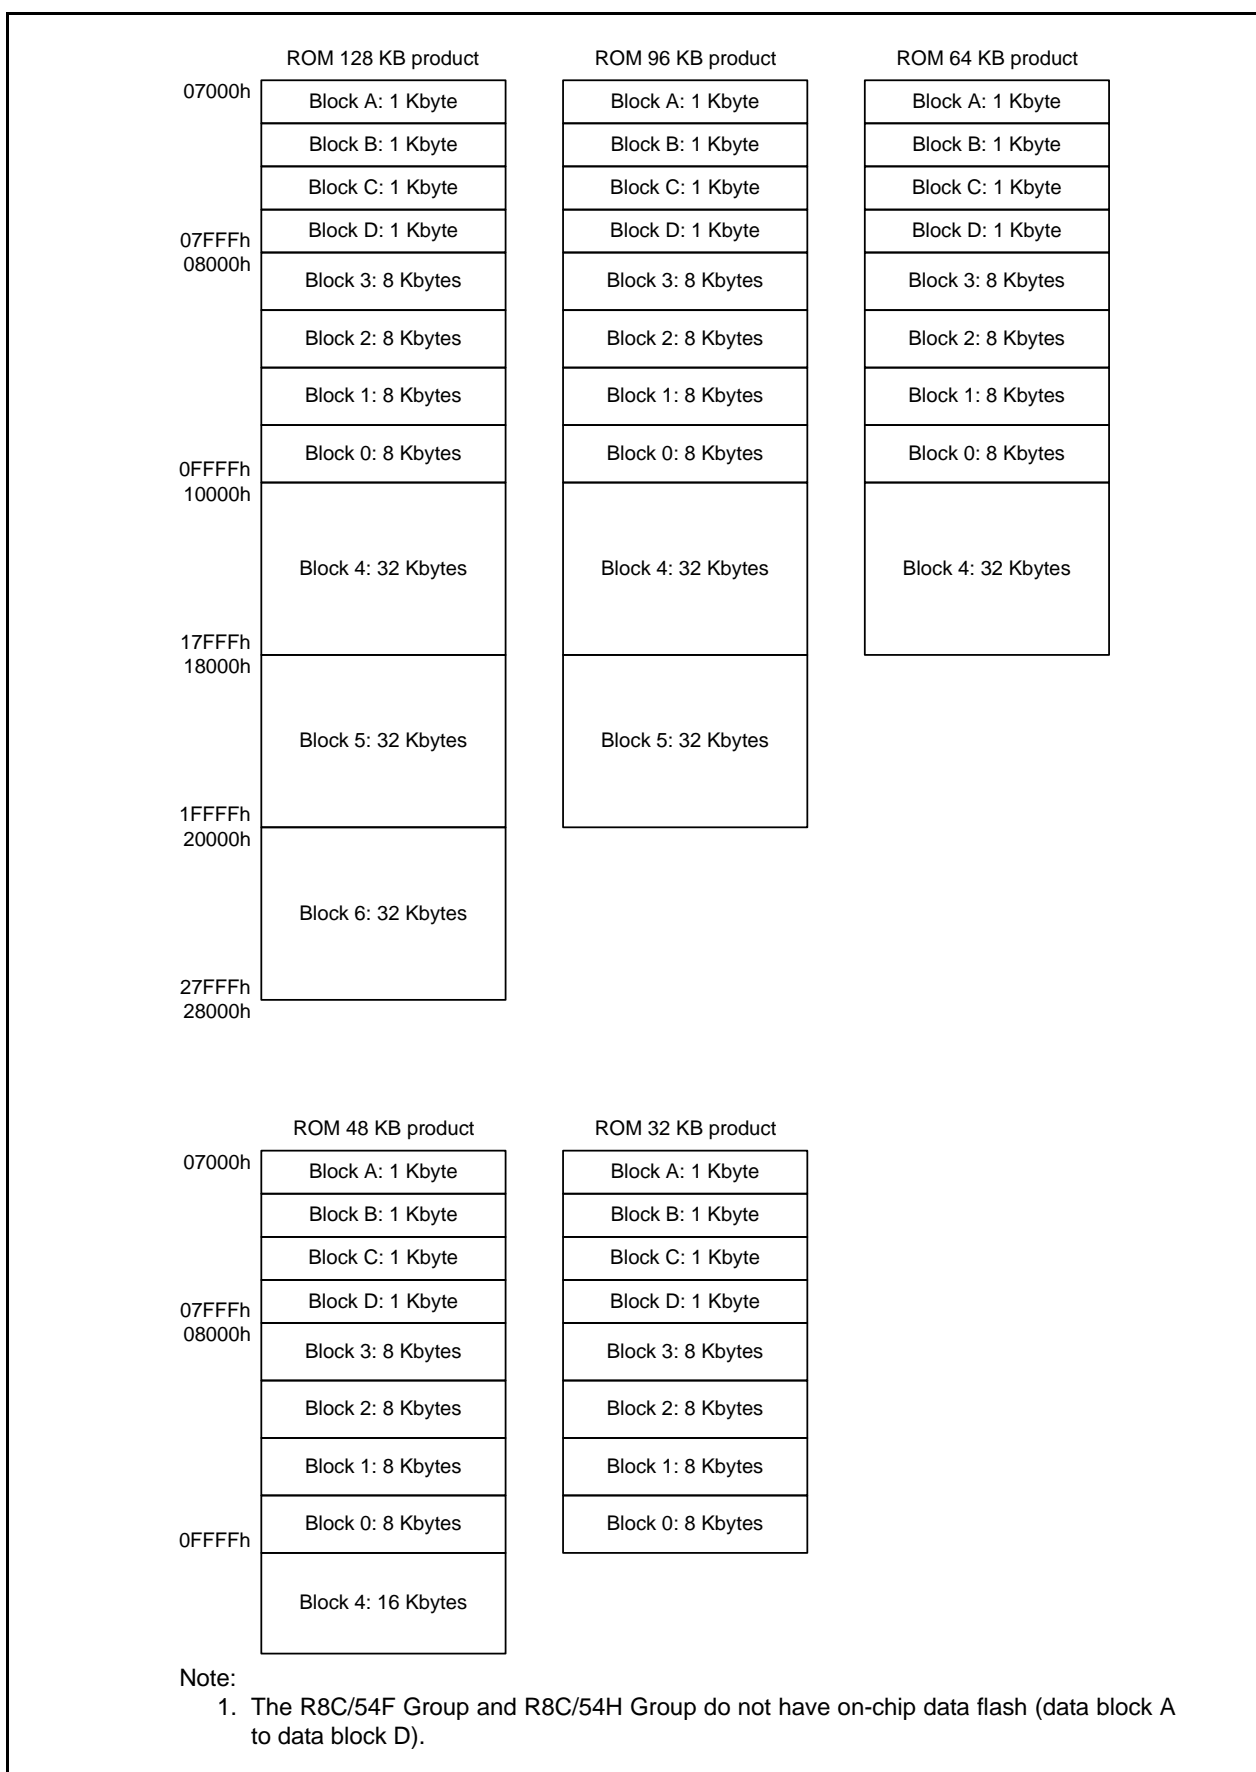

Figure 27.1 R8C/54E Group, R8C/54F Group, R8C/54G Group, R8C/54H Group Flash Memory Block Diagram
- The number of blocks and block division vary with the MCU. Refer to **Figure 27.1 R8C/54E Group, R8C/54F Group, R8C/54G Group, R8C/54H Group Flash Memory Block Diagram** for details.
Figure 27.1 shows the Flash Memory Block Diagrams of the R8C/54E Group, R8C/54F Group, R8C/54G Group, R8C/54H Group.